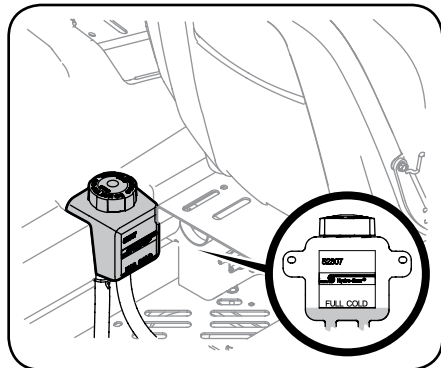

Figure 4-7
- Clean the reservoir cap and the area around the cap to prevent debris from contaminating the transmission oil. See Figure 4-7.
- Turn the reservoir cap counter-clockwise to remove, then check the oil level in the reservoir. Oil should be visible at the bottom of the cup, but the oil level must NOT be above the "FULL COLD" line. See Figure 4-7. DO NOT FILL THE RESERVOIR.